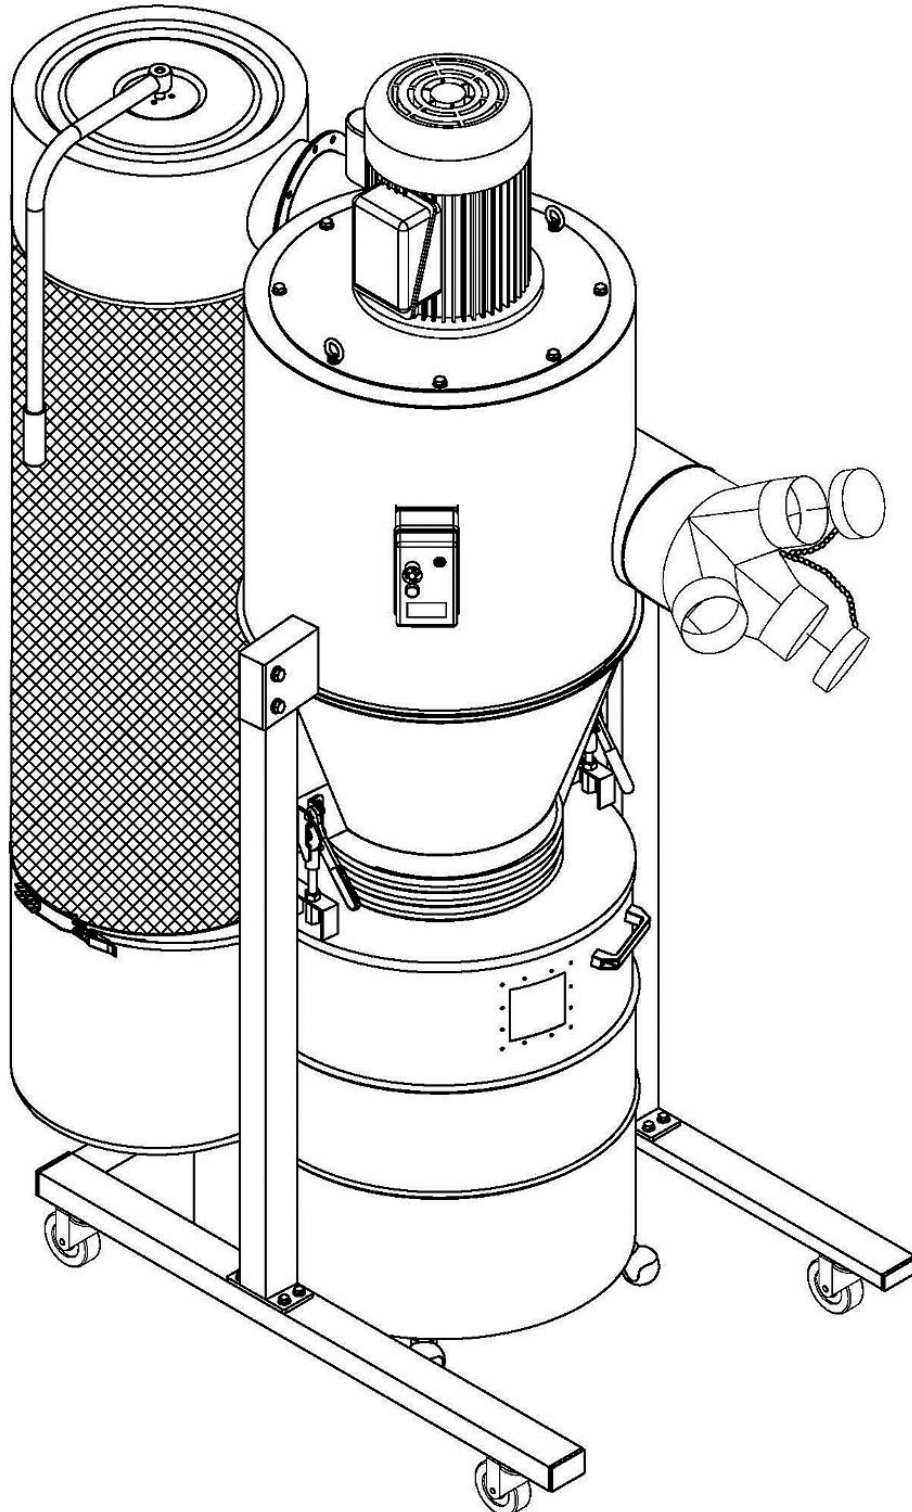

Fig. 9
14. All the assembly steps are completed. See (FIG.9)